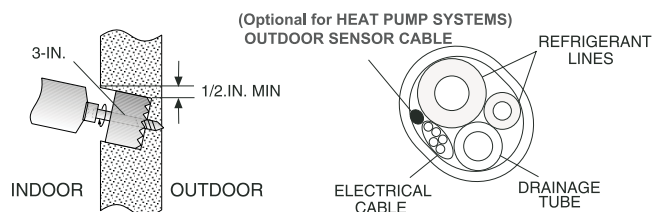

Fig. 5 — Drill Holes
3. Mark the four drilling holes on the wall, as they appear in Fig. 4 and Fig. 5.
To make the connections between the indoor and outdoor units, drill a 3-in. hole through the wall for the refrigerant lines, drainage hose and control cable passage as shown in Fig. 5.
5. Make sure the drainage hose is at the bottom side of the wall through-hole (see Fig. 5).